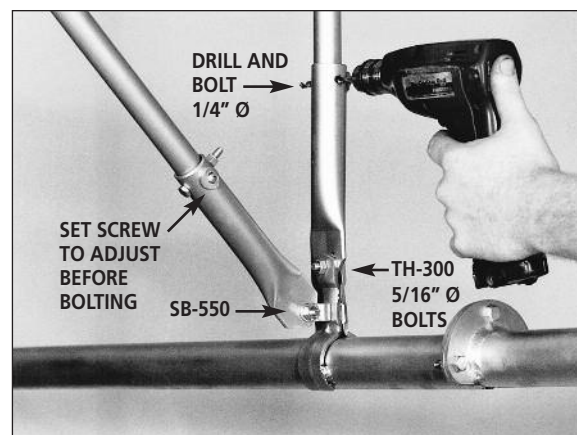

Figure 5
- **Figure 5** shows TH-300 track hanger clamp and SB-550 sway brace. SL-300 sleeves allow height adjustment of the hanger using set screws. Once the track is installed at the correct height, hangers **MUST** be drilled and bolted with 1/4" x 1-3/4" long bolts.